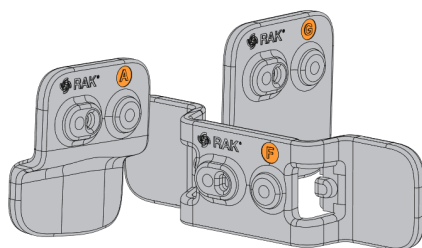
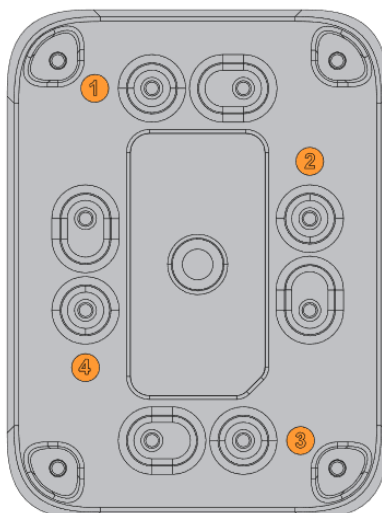

Figure 11: Mount accessories marked with letters
Figure 12: WisBlock Unify Enclosure marked with numerals
Each mount accessory has a mark indicated by a capital letter, as shown in **Figure 11**, and each WisBlock Unify Enclosure has several fixed positions, which are indicated by a mark of numerals, as shown in **Figure 12**. The small-sized WisBlock Unify Enclosure has only four (4) fixed positions.